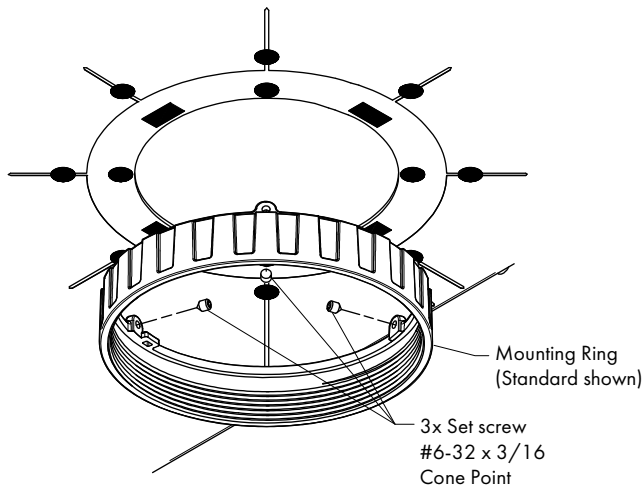

FIG 14.1 Install Mounting Ring
STEP 1 Insert Mounting Ring lip fully into Housing & fasten with 3x Set Screws using allen key supplied - **DO NOT OVERTIGHTEN**. Mounting Ring can be installed with or without ceiling in place - **FIG 14.1**.